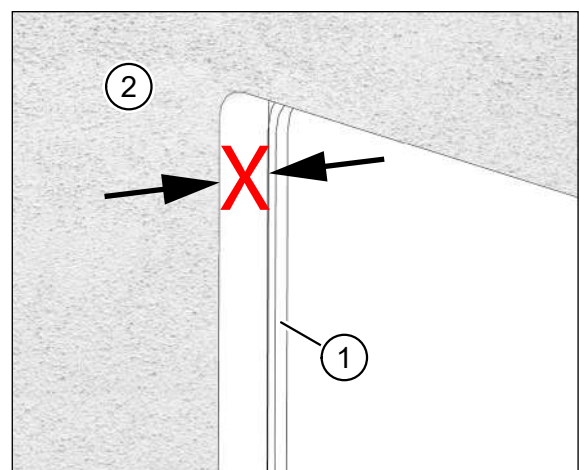

Fig. 26: Plaster protrudes over plastering trim
- The plaster (item 2 in Fig. 26) protrudes above the plastering trim (item 1 in Fig. 26).